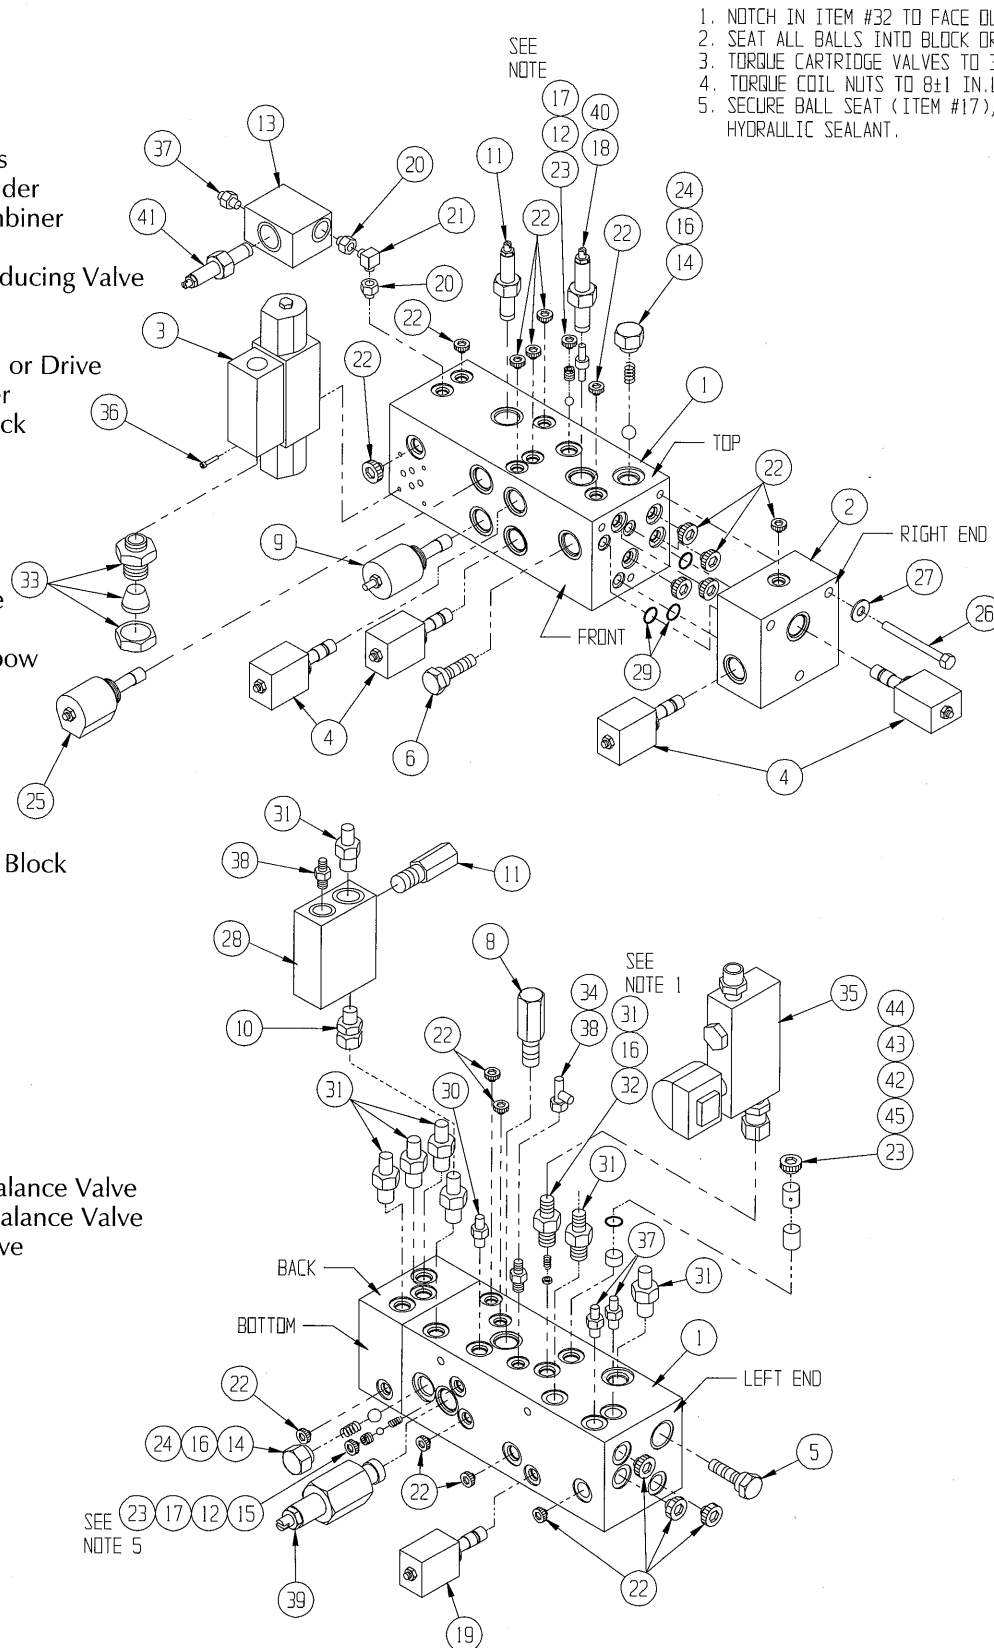

Figure 4-12: Hydraulic Manifold, Exploded View
## 4.7 Hydraulic Manifold (Figure 4-12)
**NOTE:** Mark all components as they are removed so as not to confuse their location during assembly. Refer to Figure 4-12 often to aid in disassembly and assembly.